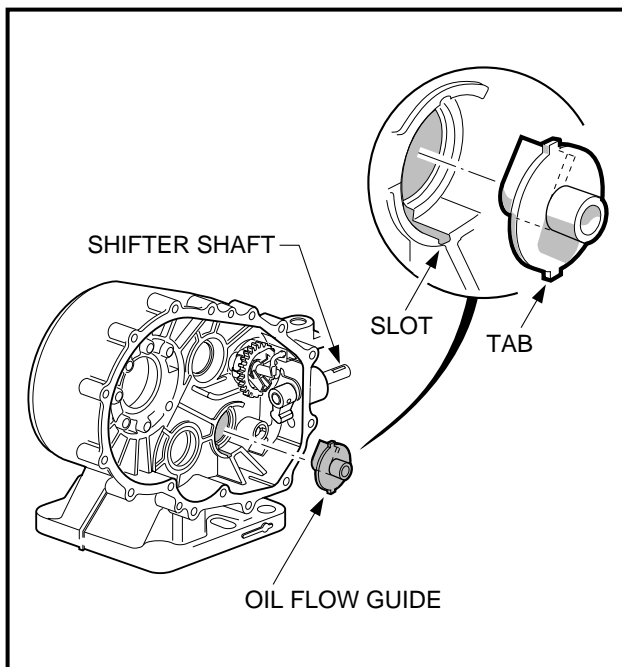

Figure 16-39 Oil Flow Guide
12. Remove the oil flow guide from the case (**Figure 16-39, Page 16-17**).
13. Remove the shifter shaft and oil seal from the case (**Figure 16-39, Page 16-17**).